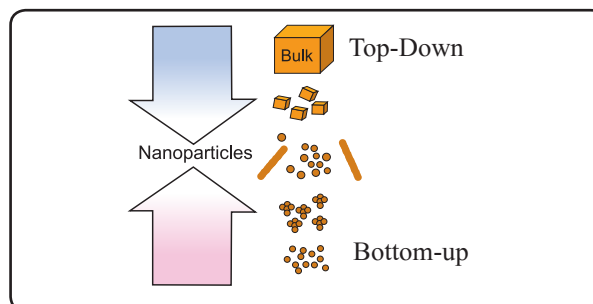

Fig. 16.6 : Schematic illustration of the preparation of nanoparticles
16.7.1 : There are two approaches to the synthesis of nanomaterials. Bottom up and Top down. Fig. 16.6 shows schematic illustration of the preparation methods of nanoparticles.